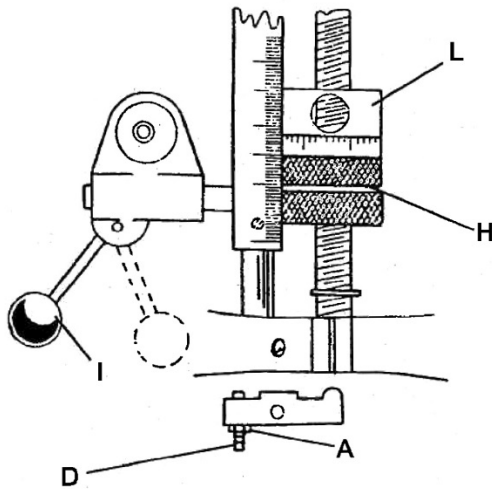

Figure 12: Feed trip adjustment
3. Tighten four turret lock bolts (C, Figure 12).
Refer to Figure 12:
1. Loosen locknut (A, Figure 12).
2. Engage trip lever (I) by pulling away from head assembly.
3. Adjust micrometer nuts (H) against quill stop (L).
4. Slowly turn adjusting screw (B) with provided hex key until lever (I) trips.
5. Tighten locknut (A).